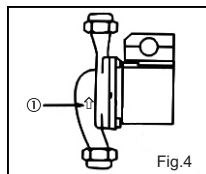

Fig.4
- The flow direction must correspond with the arrow located on the pump housing (Fig.4).